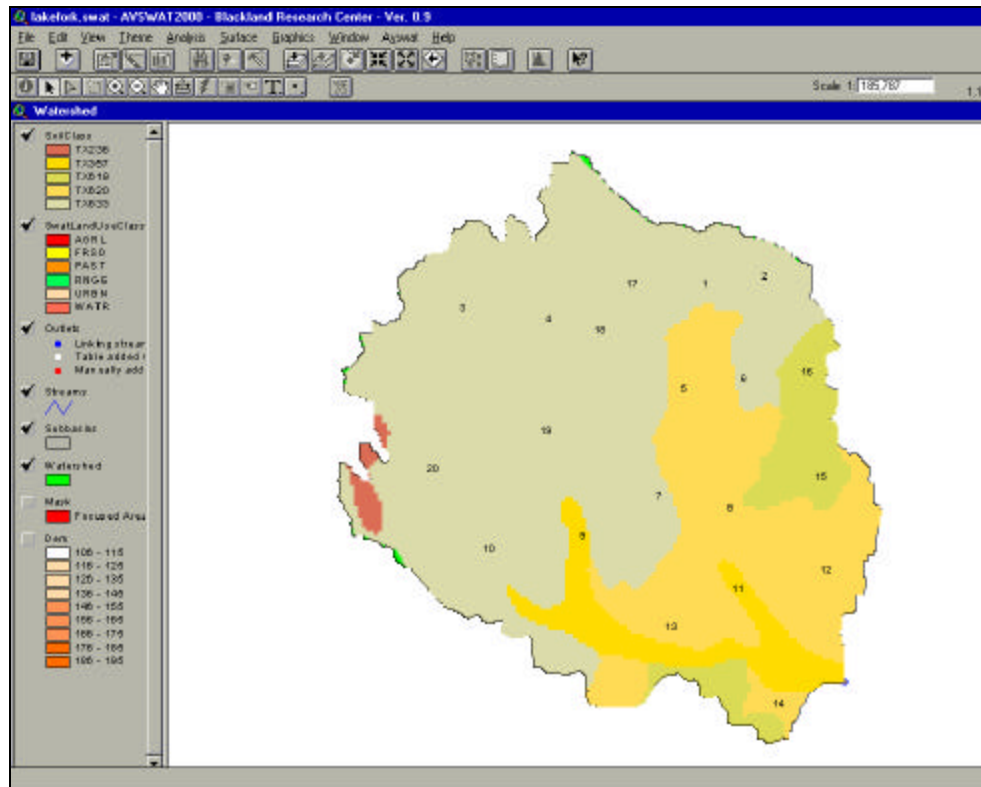

Figure 15.34
25. The category display for the map will show the soil codes (Figure 15.34).